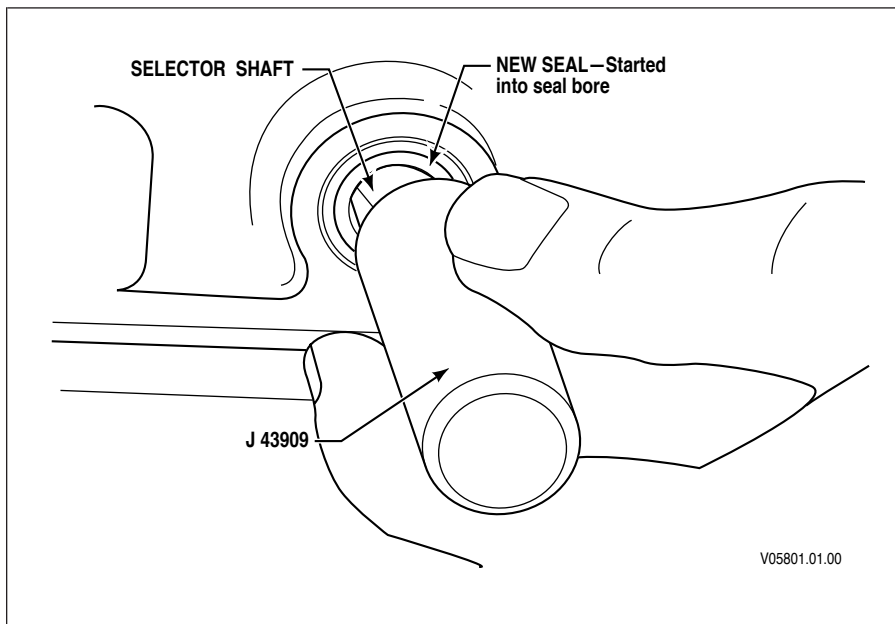

Figure 4-2. Selector Shaft Seal Installation
2. Carefully slide a new selector shaft seal over the selector shaft with the wide face of the steel case facing outward (refer to Figure 4-2). Position the seal so that it is starting to enter the seal bore.
4. Slide the special tool into position so that the end of the tool contacts the seal being installed (refer to Figure 4-2). Use a mallet to strike the special tool and drive the new seal into the seal bore until it is seated at the bottom of the bore.